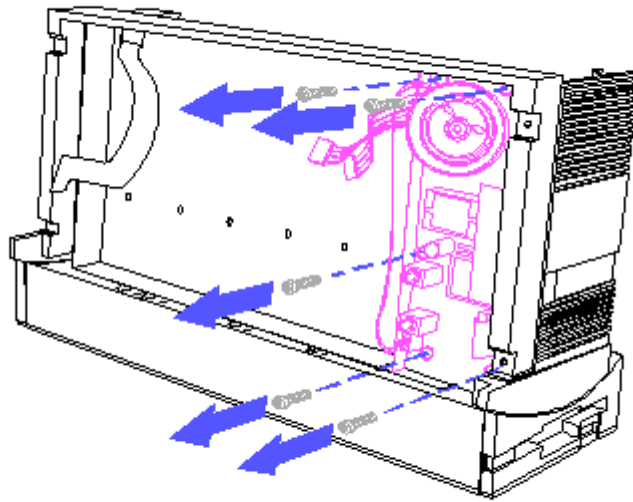

Figure 5-23. Removing the Display Inverter Board
6. Pull the display inverter board insulator aside to gain access to the screws (Figure 5-23).
7. Using a Torx T-15 screwdriver, remove five screws securing the display inverter board (Figure 5-23).